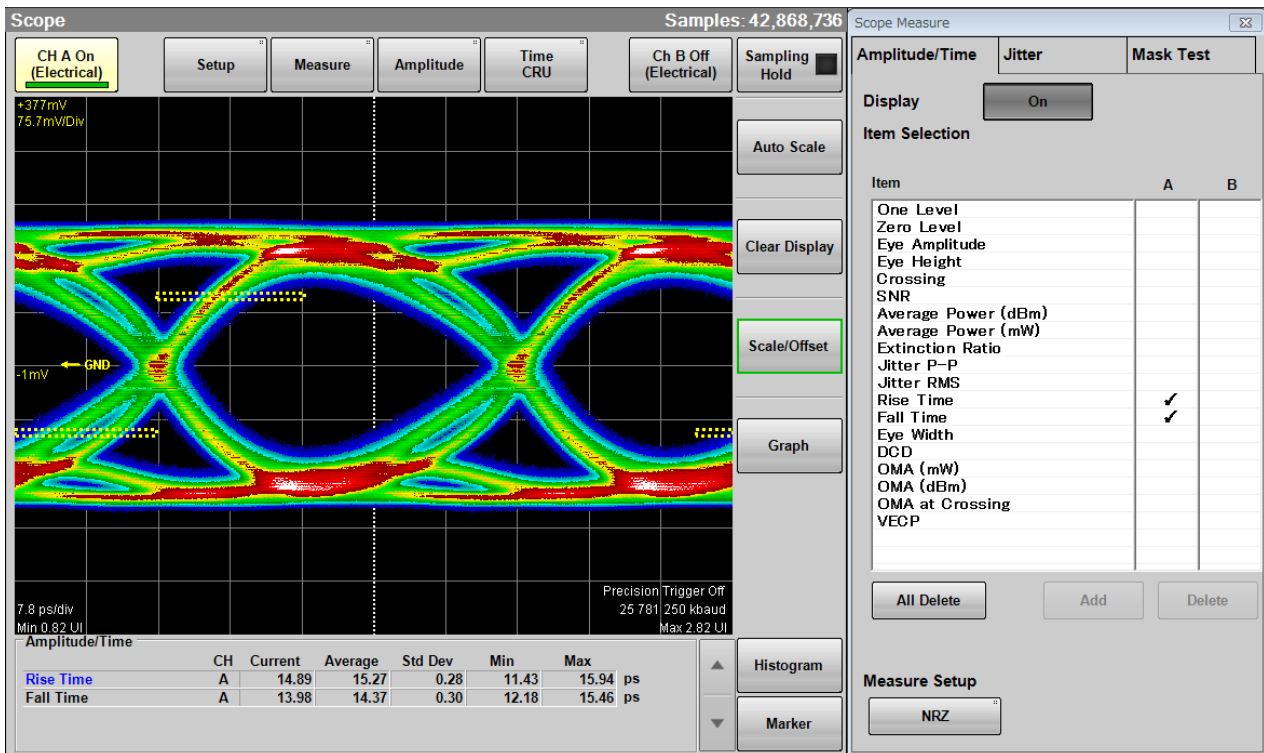

Figure 6.9.1-2 Display Example of EYE Boundary
2. Click **Offset from Crossing** and **Width** of EYE Boundary and set the values respectively. Refer to “Figure 6.9.1.1-2 Setting Item of EYE Boundary”.